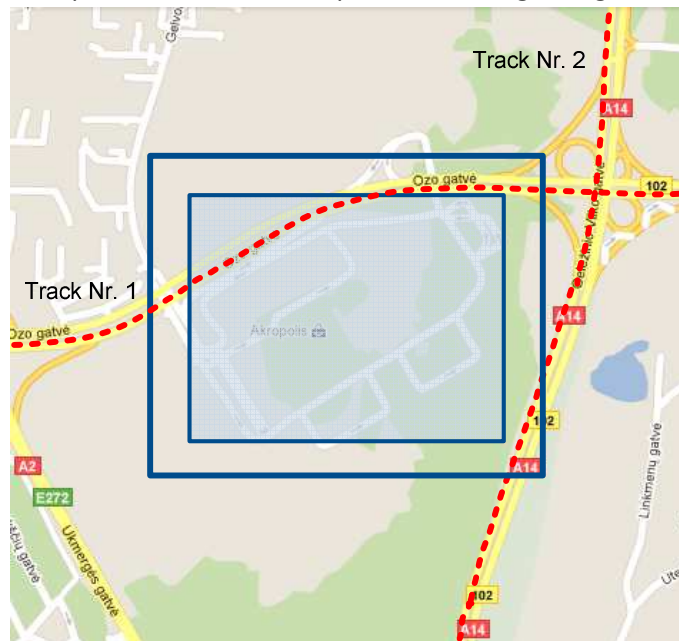

Figure 38 Geofence border
- Frame border – frame border is an additional border around Geofence zone. It is additional area around defined zone used to prevent false event recording when object stops on the border of the area and because of GPS errors some records are made inside area and some – outside. Event is generated only when both borders are crossed. See Figure 38 for details: track 1 is considered to enter the area while track 2 does not.